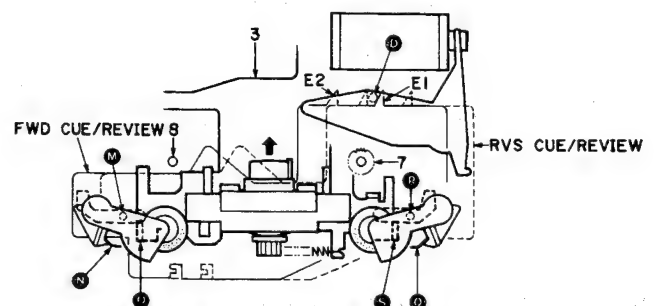

Fig. 22 (Perspective view from the front)
- 6-7) When the SUB-CHASSIS comes to the top, the SLIDER is in one of the positions of Fig. 22 shown in the diagram. In either case, the spring ⑨ of the pinch roller (L, R) is not lifted by the SUB-CHASSIS edge ③, so the pinch roller is not pressed against the capstan.